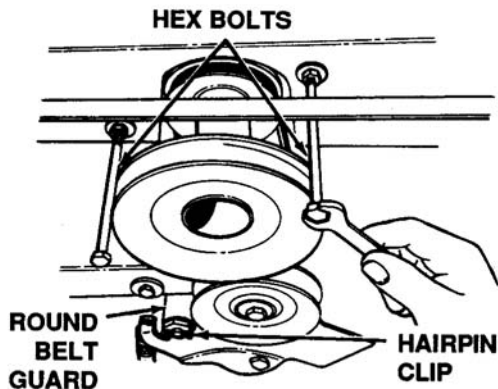

Figure 8-29. Removing Belt Guard
1. Working beneath the tractor, remove the round belt guard from the idler by removing the hairpin clip. See Figure 8-29. Remove two hex bolts which act as belt keepers by the engine pulley.
10. Replace the round belt guard by the idler pulley (hex side down). Replace the hex bolts (belt keepers) by the engine pulley. See Figure 8-29.